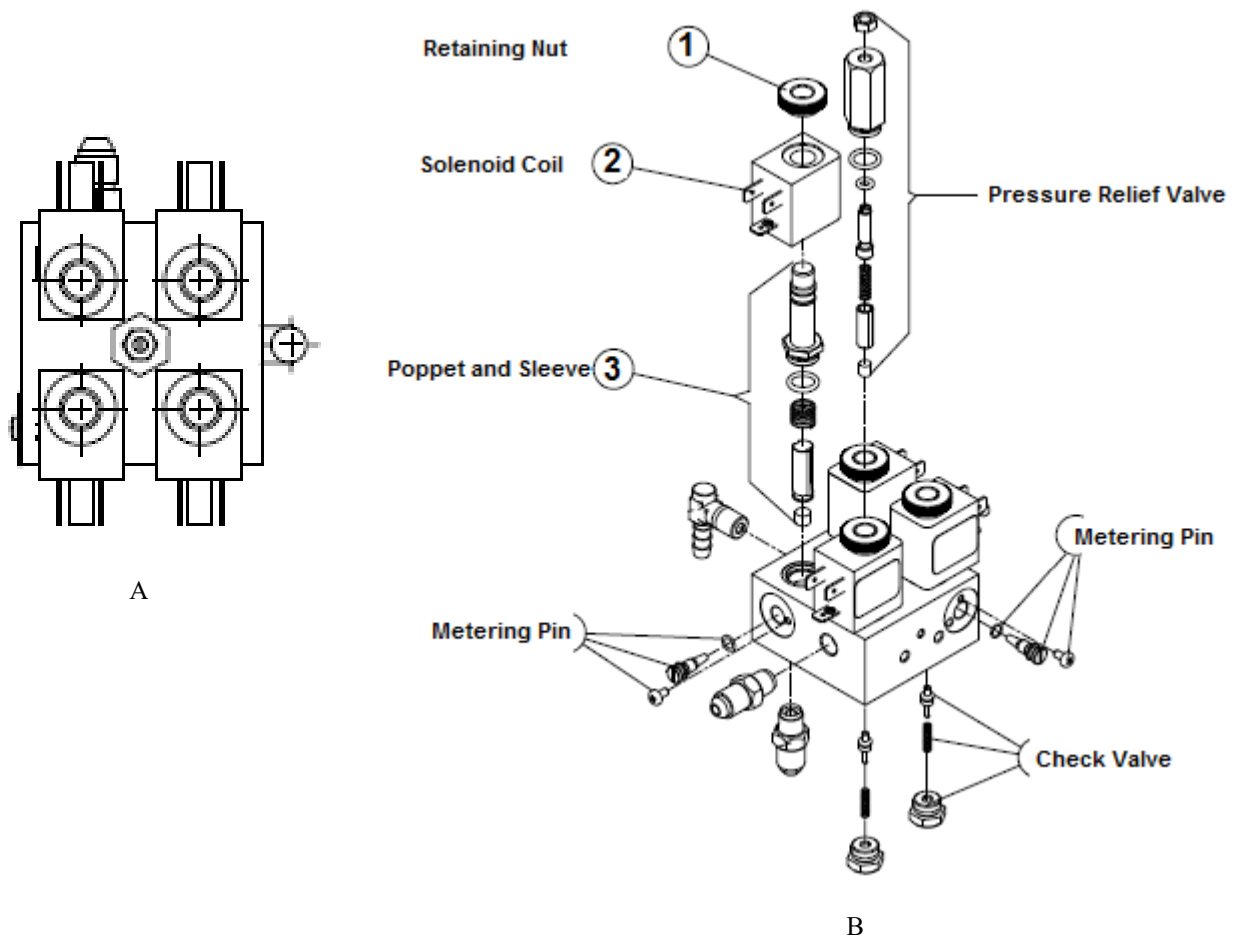

Figure 11
Refer to Figure 11
1. Remove seat cushion. See figure 11 on page 16.